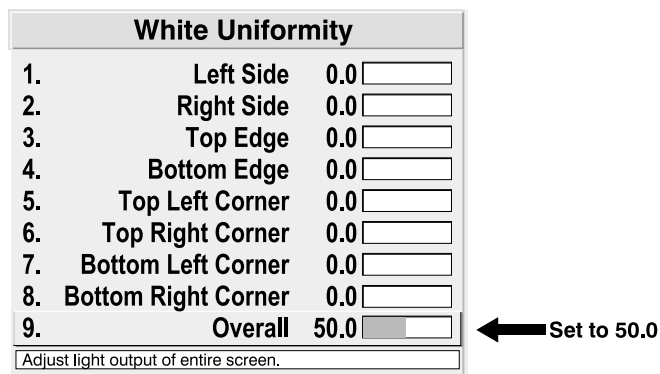

Figure 3.42.
- 1e) In the *White Uniformity* menu, reduce each color light output level to **50.0**. This decreases the light output from each color *just enough* throughout the screen so that any color level can then be *increased* later as necessary for matching light output from zone-to-zone. Do not exceed **50.0**—a higher level will likely interfere with achieving brightness uniformity and is *not recommended*. See Figure 3.42.